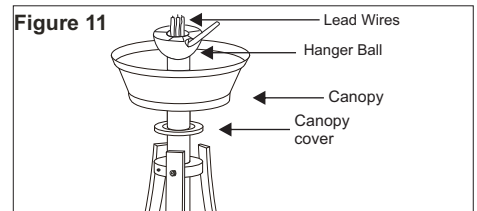

Figure 11
7. Slip canopy cover and canopy onto downrod. (Figure 11) Carefully reinstall hanger ball onto downrod. Make sure that cross pin is in correct position, set screws are tighten and wires are not twisted.